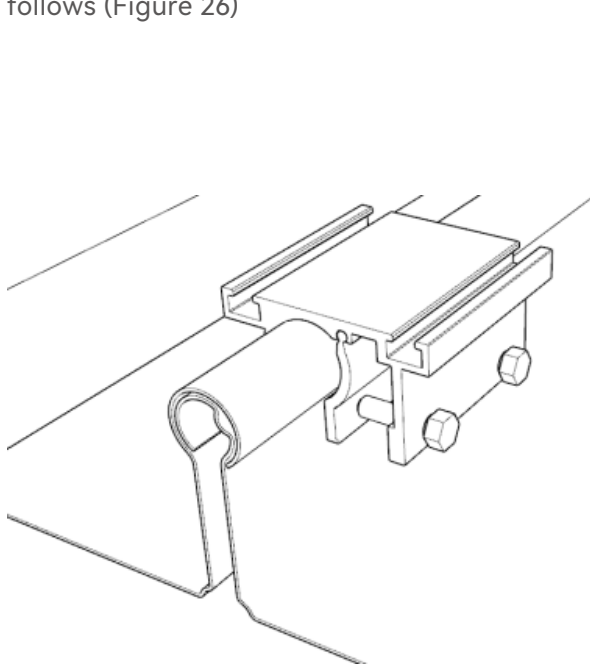
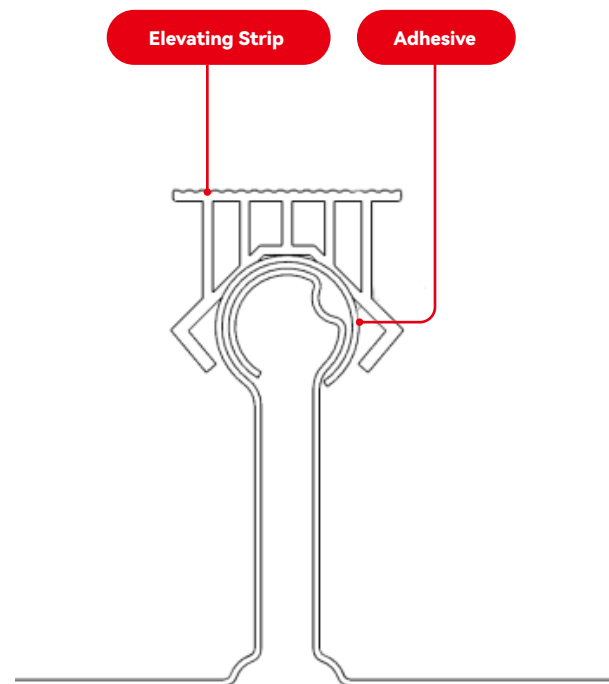

FIGURE 25
FIGURE 26
② Install the clamp on the round rib according to the position of the snapline, and use the hexagonal bolt to lock the clamp for installation (Figure 25), the overall installation result is as follows (Figure 26)